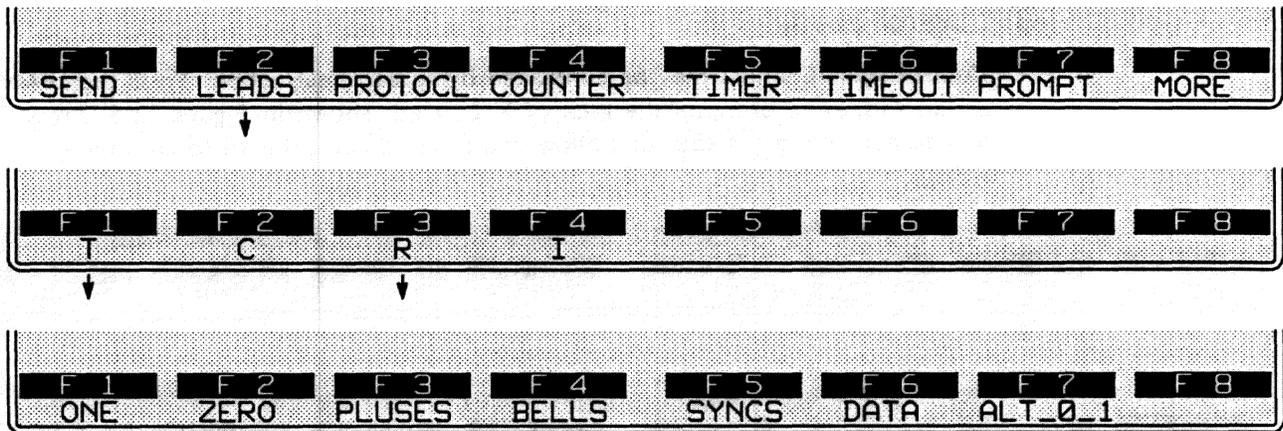

Figure 32-7 X.21 data leads T and R sometimes perform a "control" function by idling various characters.
3. *Idle.* Data leads also may be programmed to idle constant mark, constant space, bell characters, plus characters, sync characters, and alternating 0 and 1. Figure 32-7 shows the softkey path going through *LEADS* and *T* or *R* to the various idle states.
5. *Plus, bell, or sync.* Plus (+) characters, bell (R) characters, and sync (5) characters also may be transmitted as contiguous idle characters. A transmit stream of any of these characters will be preceded by two ASCII sync characters (hex 15). In other respects, the action *LEADS R BELLS* has the same effect as the action *IDLE_LINE "R"*.
6. *Data.* A ONE or ZERO leads action will clamp the line to the requisite voltage level. Once a lead is clamped, it must be unclamped before it can be used again for data. The DATA softkey shown in Figure 32-7 represents the "unclamp" action.